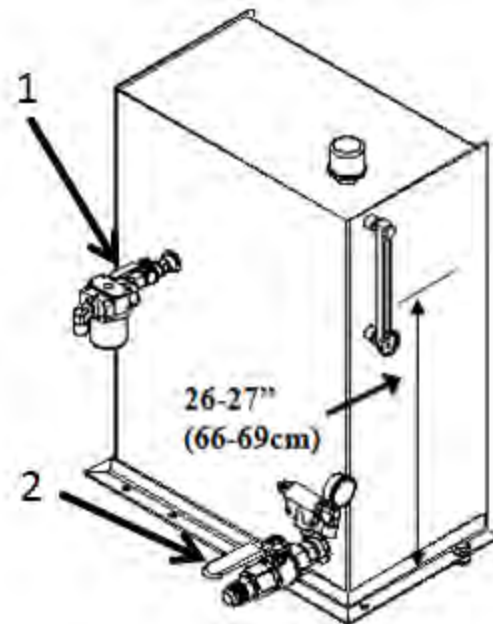

Figure 10: Hydraulic Oil Level
4.2.2 Hydraulic Tank Oil Level and Valve Position: Refer to section 11.0, Lubrication and Maintenance, for the service schedule and oil type. “Full Cold Line” on the decal should be at the dimension shown in Figure 10.